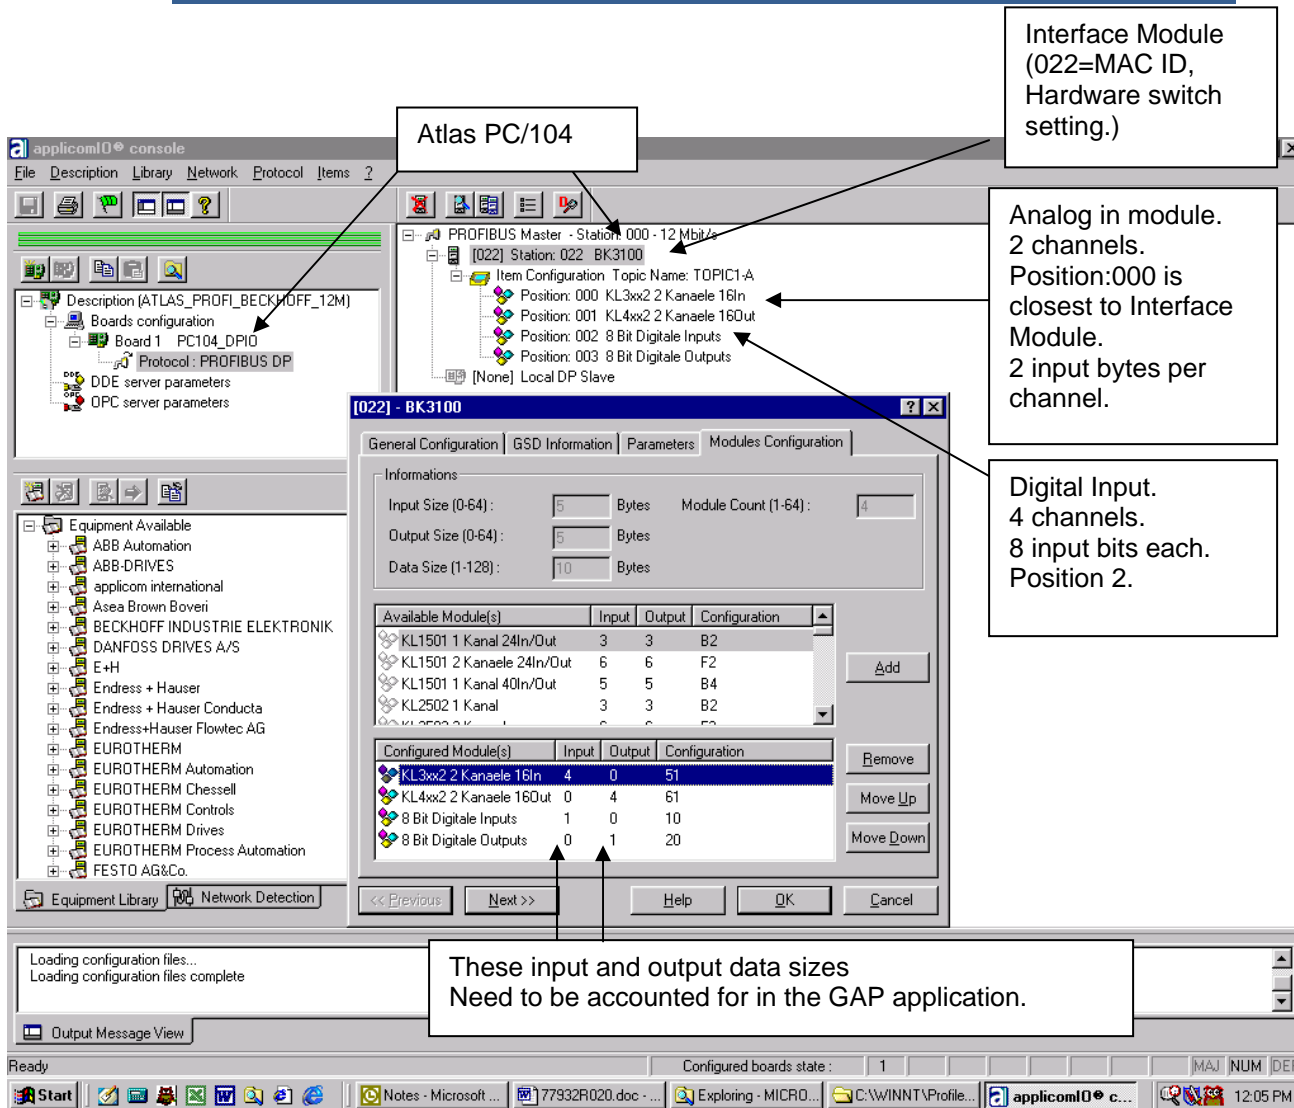

Figure 5-1. Profibus Applicom Configure Screen
3. See Figure 5-1 for an example. "Board 1" will be the PC/104 Profibus board that is installed on your AtlasPC. "PC104_DPIO".
7. Add the modules desired, in the order they will be physically from the interface module from left to right, in the "Module Configuration" tab (see Figure 5-1). **NOTE:** If your interface module is listed in the available module section, add it first.